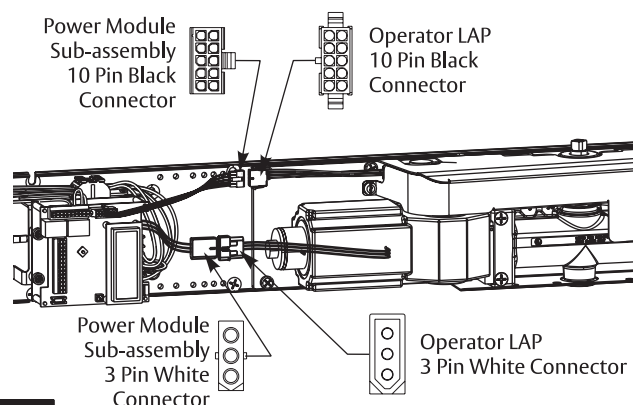

Figure 9
1. Detach 10-pin black connectors between operator LAP and power module sub-assembly. (Figure 9)
2. Detach 3-pin white connectors between operator LAP and power module sub-assembly. (Figure 9)
1. Attach 10-pin black connectors between operator LAP and power module sub-assembly. (Figure 9)
2. Attach 3-pin white connectors between operator LAP and power module sub-assembly. (Figure 9)